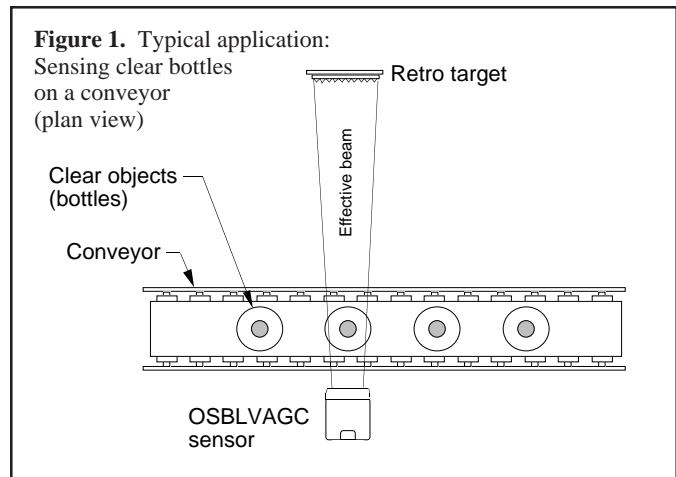

Figure 1. Typical application:
**Optimum sensor setup is a matter of achieving as much difference in light level (optical contrast) as possible between the "object present" (or "dark") and "object absent" (or "light") conditions.** Sensing will be most reliable when the following conditions are met (refer to Fig. 1):
The larger the reflector, the higher the excess gain, the greater the possible sensor-to-reflector distance, and the wider the effective beam. If the objects to be sensed are small, a smaller (or partially masked) reflector might provide better optical contrast than a larger one. This is because the larger the reflector used, the larger the sensor's effective beam. Refer to Figure 1 (page 3). A larger reflector might cause light to "spill" around the edges of a small object and increase the light signal that the sensor sees in the "dark" condition.